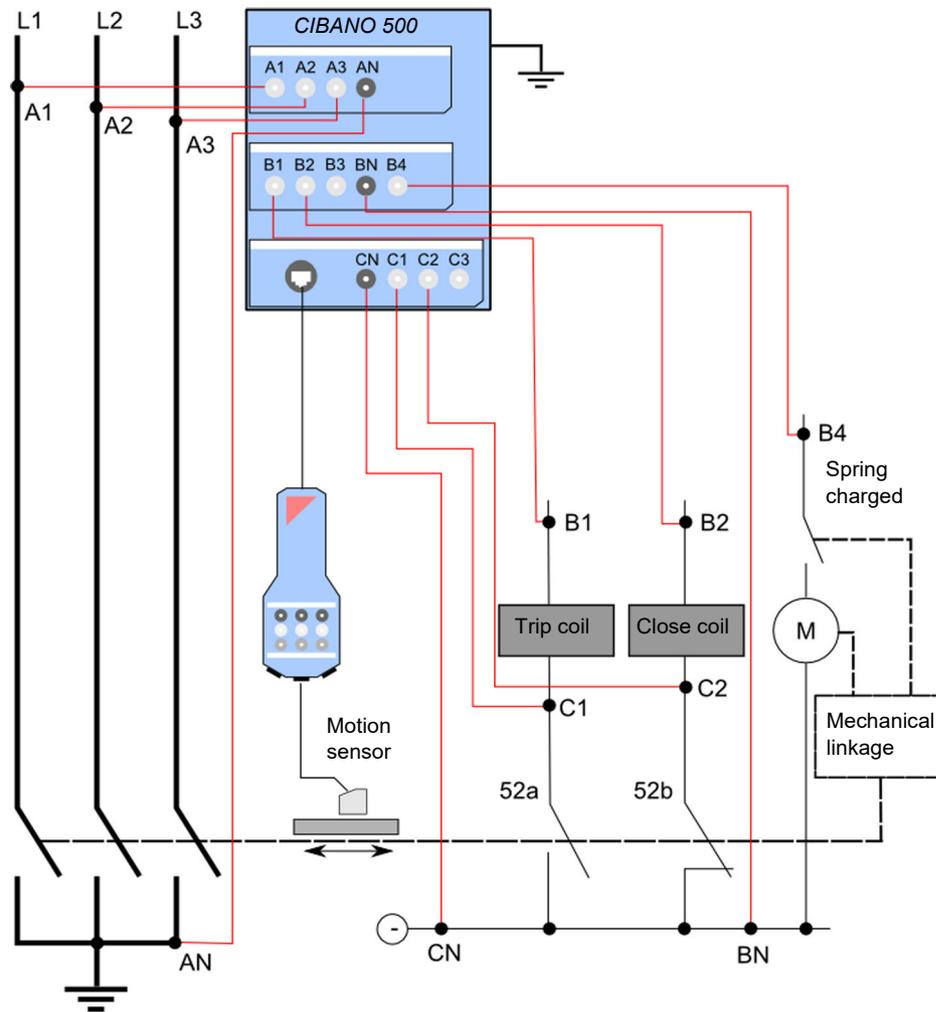

Figure 17-9: Connecting *CIBANO 500* to the circuit breaker for the Timing test
- ▶ Connect *CIBANO 500* to the circuit breaker as shown in Figure 17-9: "Connecting CIBANO 500 to the circuit breaker for the Timing test".